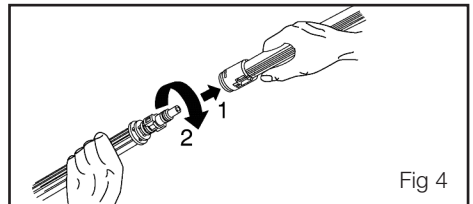
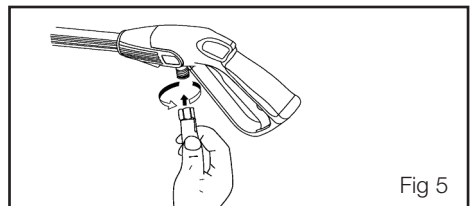
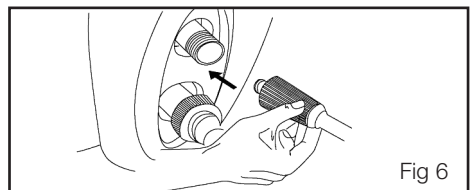

Fig 4
Fig 5
Fig 6
See Fig 4, Fig 5 and Fig 6
1. Fit the lance into the trigger gun by rotating it until the two parts are locked together in place. (Fig 4).
2. Connect the trigger gun to the high pressure hose. (Fig 5).
3. Connect the high pressure hose to the water outlet on the main body of the High Pressure Washer. (Fig 6).